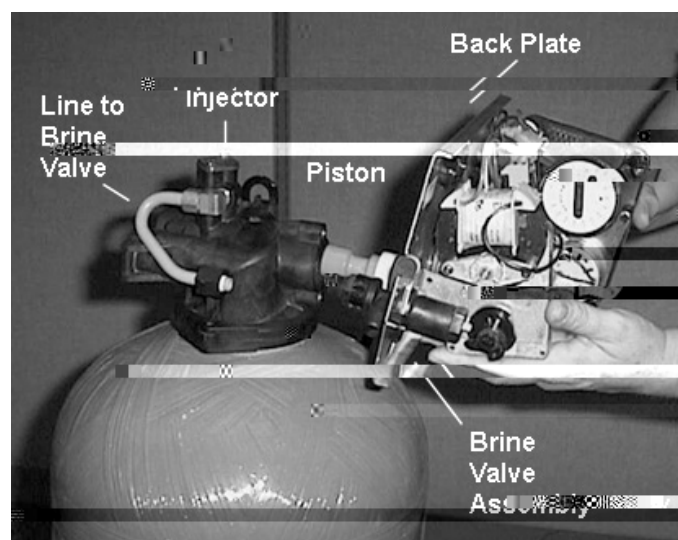

FIGURE 6
1. Remove the cap screw (N) and the cap screw (N) from the back plate.
5. Gently pull the brine valve assembly out of the tank. (See Figure 6.)